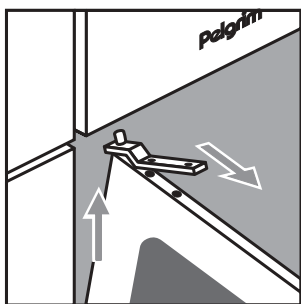

fig. 9a
- Remove the upper hinge by removing the two screws. Lift the door from the lower hinge (see fig. 9a).